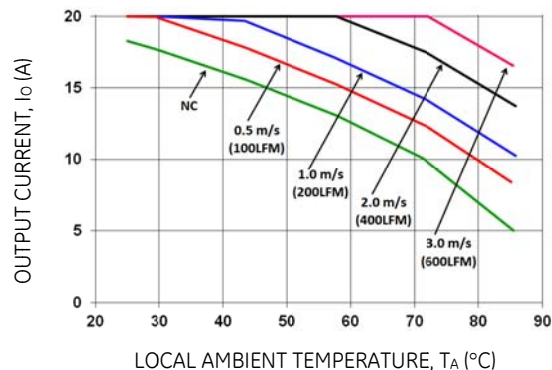

Figure 20. Output Current Derating for the Open Frame EBVW020A0B in the Transverse Orientation; Airflow Direction from Vin(-) to Vin(+); Vin = 48V.
Increased airflow over the module enhances the heat transfer via convection. The thermal derating of figures 20 through 22 show the maximum output current that can be delivered by each module in the indicated orientation without exceeding the maximum TH_x temperature versus local ambient temperature (T_A) for air flows of, Natural Convection, 1 m/s (200 ft./min), 2 m/s (400 ft./min).
The use of Figures 20 is shown in the following example:
Determine required airflow (V) (Use Figure 20):